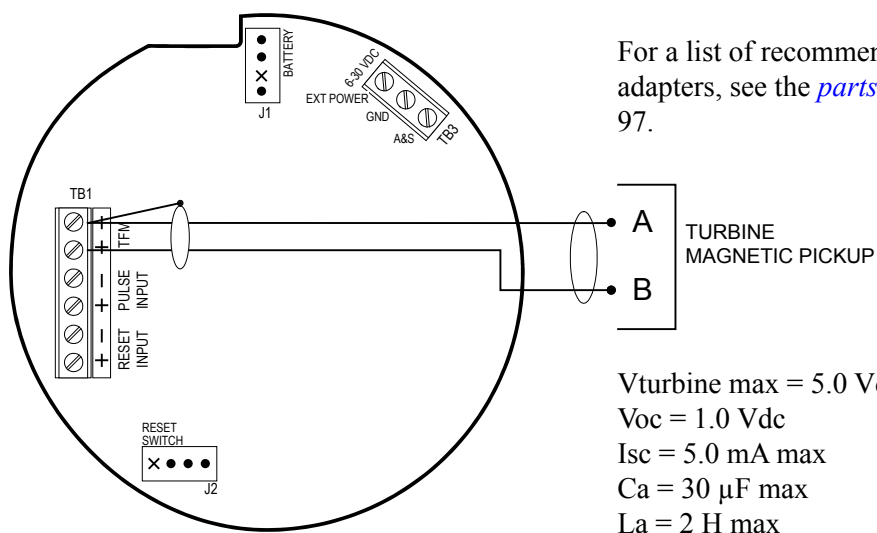

Figure 2.8—Flowmeter input wiring
5. Connect the flowmeter or pulse input wiring to terminal block TB1. See Figure 2.8 and 2.9, page 26.